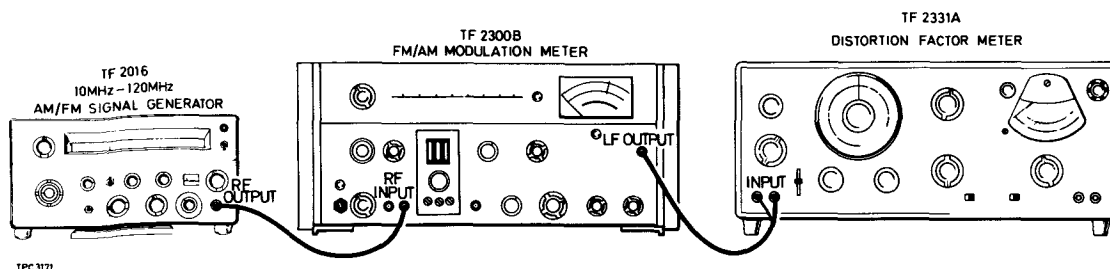

Fig. 3 Checking f.m. and a.m. distortion and f.m. on a.m.
- (1) Connect the test equipment as shown in Fig. 3.
- (2) Set the FUNCTION selector at CW, the CARRIER switch at ON and the frequency of TF 2016 at 30 MHz. Then check that the pointer of the MOD/CARRIER meter is within the white box on meter scale.
- (3) Set the FUNCTION selector at INT AM. Then adjust SET MOD control to position the pointer of the MOD/CARRIER meter at the centre of the white box on scale.
- (4) Set the AM DEPTH control at 30%. Then tune the modulation meter to TF 2016 and check that the distortion indicated on the distortion factor meter is not greater than 3%.
- (5) If required, repeat the check using the external a.f. generator for modulation frequencies at 100 Hz and 10 kHz.
- (1) With the test equipment connected as in Fig. 3 repeat para. 23 (2). Then set the FUNCTION selector at INT FM and the SET MOD control to position the pointer of the MOD/CARRIER meter at the centre of the white box.
- (2) Set the DEVIATION multiplier at x1 and the DEVIATION control at 25 kHz.
- (3) Ensure that the modulation meter is tuned to TF 2016. Then check that the distortion indicated on the distortion factor meter is not greater than 3%.
- (4) If desired, repeat the check using the external a.f. generator for modulation frequencies at 100 Hz and 20 kHz.
- (1) Connect the test equipment as in Fig. 3.
- (2) Set the FUNCTION selector at INT FM, the CARRIER switch at ON, the TF 2016 frequency at 100 MHz and its output at maximum. Then adjust the SET MOD control to position the pointer of the MOD/CARRIER meter at the centre of the white box on meter scale.
- (3) Set the DEVIATION multiplier at -5 and the DEVIATION control at 5 kHz then tune the modulation meter to TF 2016 and adjust the indicated deviation to 1 kHz, if necessary.
- (4) Set the FUNCTION selector on the distortion factor meter (d.f.m.) at SET REF LEVEL, the INPUT switch at HI Z, the INPUT range at 1 V - 10 V and the METER RANGE switch at 0.1 V. Then adjust the SET REF (d.f.m.) level control to give a meter indication of 0 dB.
- (5) Set the TF 2016 FUNCTION selector at INT AM and adjust the SET MOD control to position the pointer of the MOD/CARRIER meter at the centre of the white box. Then set the AM DEPTH control at 30%.
- (6) Note the difference in level shown on the d.f.m., using a more sensitive range if necessary, and ensure that it is greater than 20 dB, i.e. deviation less than 100 Hz.